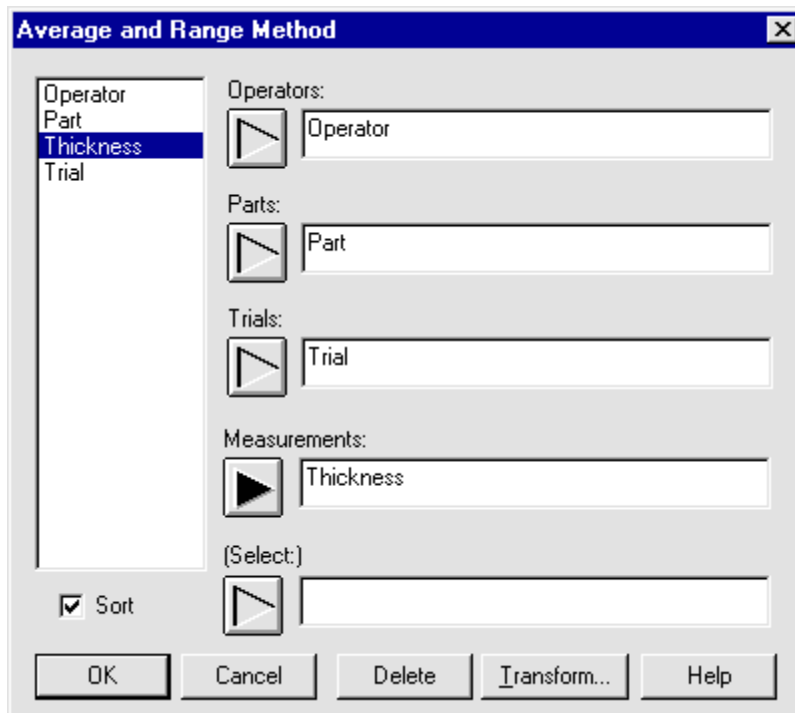

Figure 3-5. Completed Dialog Box for the Average and Range Method
5. Enter **Thickness** into the Measurements text box. The dialog box should look like the one shown in Figure 3-5.